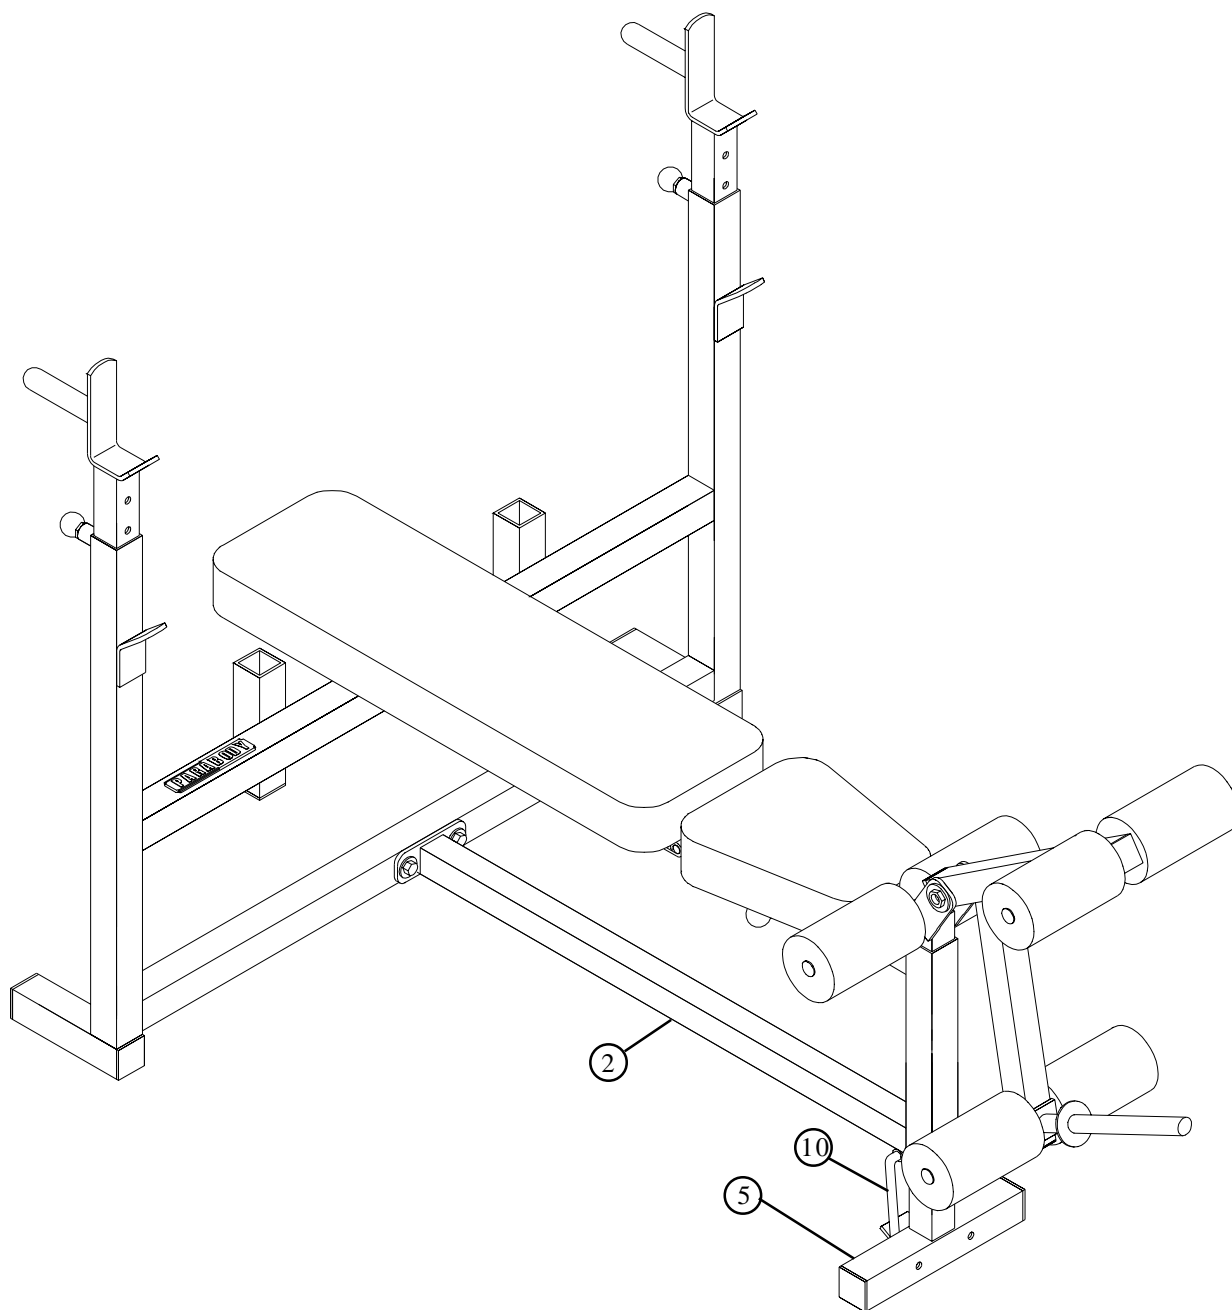

**FIGURE 8**
- Insert three 1-3/4" SQ. END CAPS (23) into the ends of the LEG EXTENSION (8) as shown in FIGURE 8.
- Insert two 1/2" FLANGE BEARINGS (26) into the BUSHING on the LEG EXTENSION (8) as shown in FIGURE 8.
- Assemble the LEG EXTENSION (8) to the LEG EXTENSION NECK (7) as shown in FIGURE 8, using one 1/2 X 3" BOLT (18), two 1/2" WASHERS (22), and one 1/2" LOW HEIGHT LOCK NUT (24). **(TIGHTEN THE CONNECTION ENOUGH TO REMOVE THE PLAY, YET ALLOWING THE LEG EXTENSION TO ROTATE FREELY)**
- Assemble four ROLLER PADS (12) to the LEG EXTENSION (8) as shown in FIGURE 8, using two ROLLER PAD SHAFTS (11), and four 3/4" STARLOCK COLLARS (27).
- Attach one 3/4" SQ. RUBBER BUMPER (32) to the LEG EXTENSION (8) approximately where shown in FIGURE 8.